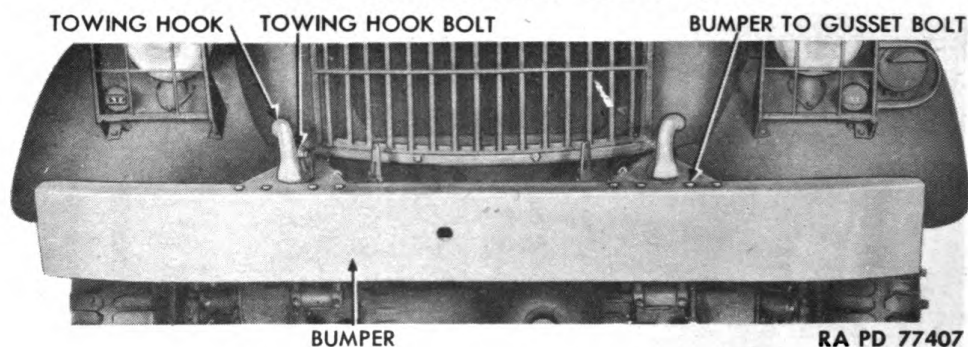

Figure 101 – Bumper and Towing Hooks Installed
a. **Description** (fig. 101). A solid bar-type bumper is attached to frame side rails at the extreme front of vehicle. A hole in the center permits use of starting crank through bumper. Chief purpose is to provide protection to front of vehicle.
b. **Removal** (fig. 101). Remove the ten bumper to gusset bolts, lock washers, and nuts which secure bumper to frame. Remove bumper.
c. **Installation** (fig. 101). Position bumper on frame side rails. Secure with the ten gusset to bumper bolts, lock washers, and nuts.
a. **Description** (fig. 101). Two tow hooks are attached to top of frame side rails just behind the bumper. When vehicle is to be towed, attach pulling apparatus to tow hooks.
b. **Removal** (fig. 101). Remove two towing hook bolts, lock washers, and nuts which secure tow hook to frame side rail. Remove two hooks.
c. **Installation** (fig. 101). Position tow hook on frame side rail. Install two towing hook bolts, lock washers, and nuts which secure it to frame.